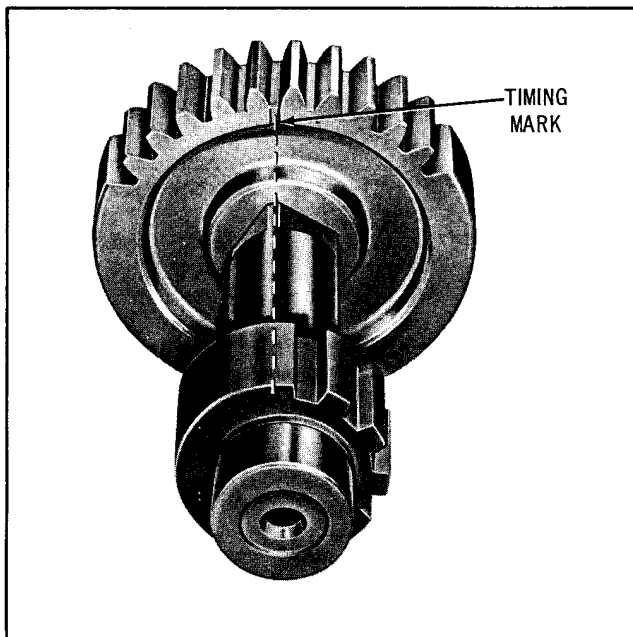

Figure 4D-7. Timing Shifter Gear
Notice that the timing mark (Fig. 4D-7) cut between the center teeth on one side of shifter gear is in line with the corner of the squared shaft end and just a little to the left of the last ratchet tooth on the shifter shaft. This is the proper timing alignment.
Refer to Fig. 4D-6. Position shifter gear (28) and spring (29) in case, so side of gear with timing mark is toward case. Insert shifter shaft (30) so parts are timed as described above and tap parts together. Insert cotter pin (27).